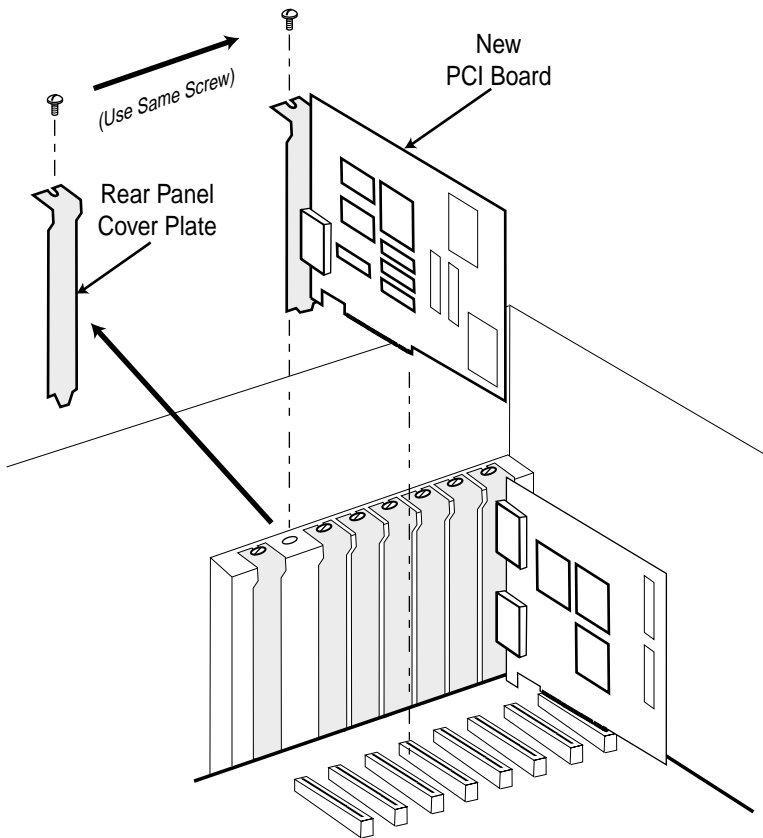

Figure 4-4. Duet Chassis/PCI Board Installation
The PCI area is located at the rear of the Duet chassis, behind the disk drive bay; this area supports industry-standard PCI Boards. Any PCI card may be installed in any available PCI slot. Before installing any PCI Boards, remove the Duet top cover (as previously described) if not already removed. Refer to Figure 4-4 to locate the PCI section of the Duet chassis.
- [] 1. Refer to Figure 4-4. Using an appropriate screwdriver, remove the Rear Panel Cover Plate for the PCI slot the new board will be installed in. *When viewed from the rear panel, each cover plate is slightly to the left of its matching board slot.* Retain the screw for installation of new PCI Board, and retain the cover plate for possible future use!
- [] 1. Refer to Figure 4-4. Using an appropriate screwdriver, remove the retaining screw from the rear panel bracket of the PCI Board you are removing. Retain the screw for cover plate installation!